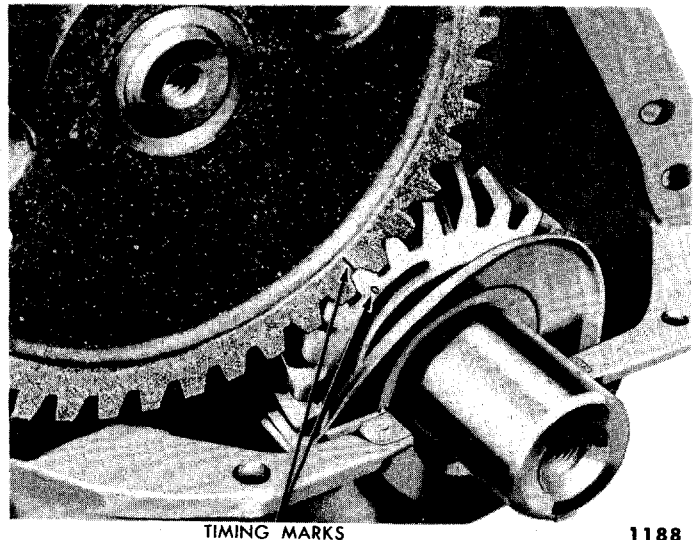

Fig. 44—Timing Marks
(2) **INSTALLATION.** When the timing gear is installed be sure the timing marks on the camshaft gear and the crankshaft are aligned as shown in fig. 44. After installing the gear, check the gear backlash. The backlash should be between 0.001 to 0.002 inch.
NOTE: Be sure the mark on the gear is in alignment with the marks on the crankshaft gear (fig. 44).